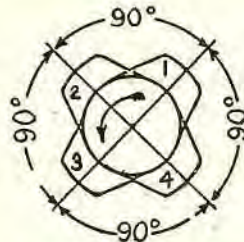

Fig. 11A. This illustration is supposed to represent the movement of the cams during a period of four strokes of the piston, as explained below and on page 33.
By referring to Fig. 11A, the inlet cam on the first stroke will be found to be in the position of (1), and will turn from 1 to 2, or 90 degrees during the first stroke.